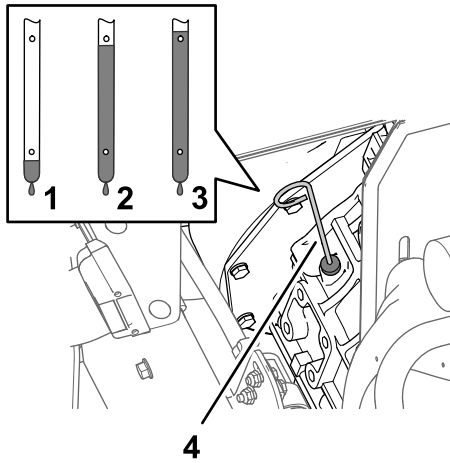

Figure 74
- Remove the dipstick and check the oil level in the engine (Figure 74).
- Slowly add additional specified oil to bring the oil level to the Full mark on the dipstick (Figure 74).